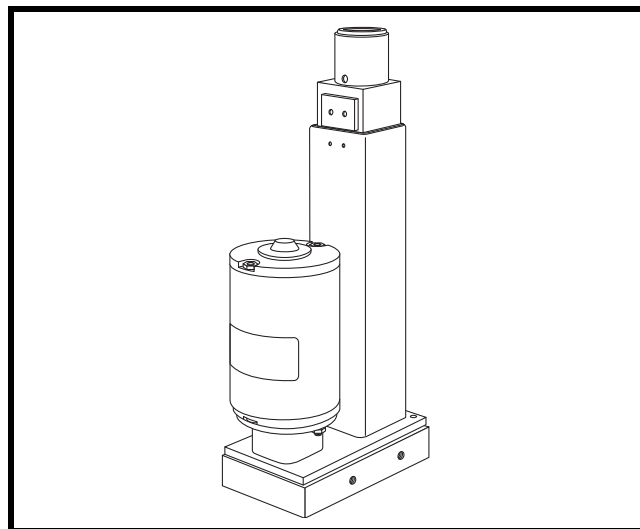

Figure 11. Power Elevating Seat Actuator
1. Align the seat shaft to the hole in the actuator. See figure 11.